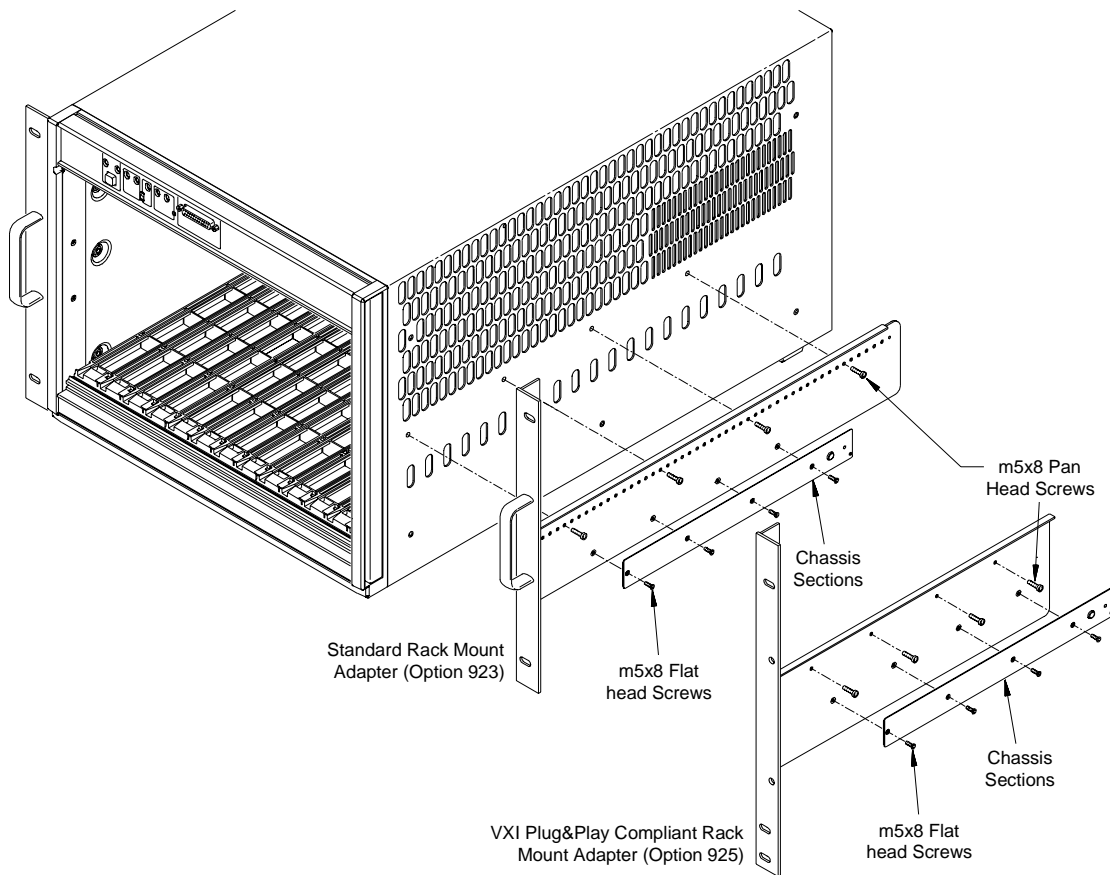

Figure B-10. Attaching the Rack Mount Adapters and Chassis Sections to the Mainframe.
- Attach the rack mount adapters to the mainframe using the eight m5x8 pan head screws provided. To mount the mainframe flush with the rack front, begin with the 3rd hole from the front of the adapter (Figure B-10).
8. Attach the chassis sections to the rack mount adapters using four m5x8 flat head screws per side (Figure B-10).